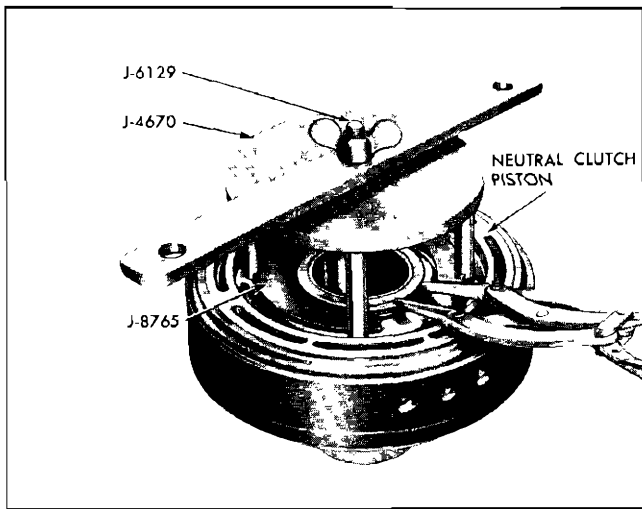

Fig. 84 Removing Neutral Clutch Spring Retainer Snap Ring
8. Using tools J-8765, J-6129, and J-4670-B remove neutral clutch release spring retainer snap ring. Center tool and position ring gap between legs (Fig. 84).
7. Using tools J-8761, J-6129 and J-4670-B, compress neutral clutch release springs and install retainer snap ring (Fig. 84).